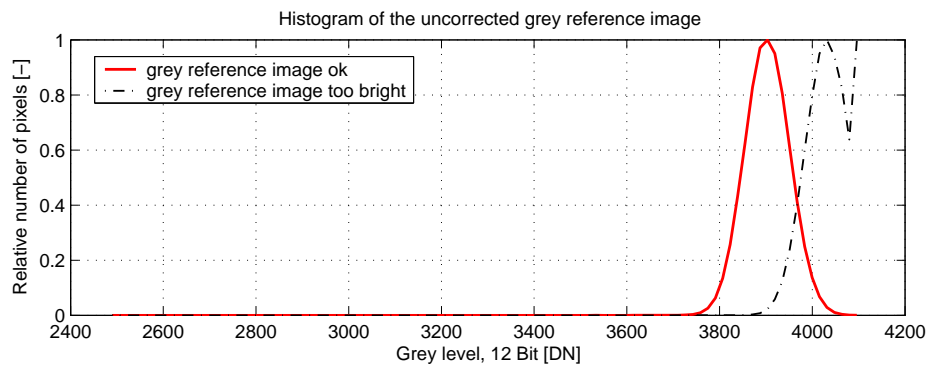

Figure 4.52: Proper grey reference image for gain correction
- When looking at the histogram of the grey reference image, ideally there are no grey levels at full scale (4095 DN @ 12 bit). All pixels that are saturated white will not be properly corrected (see Fig. 4.52).